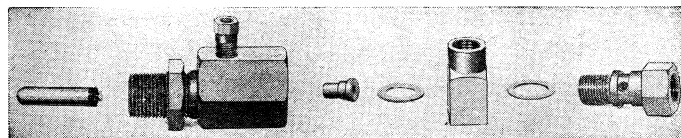

Fig. 12 Control valve hydraulic cylinder with parts removed
16. Disassemble hydraulic cylinder for inspection, Fig. 12.
9. Assemble piston stop and hydraulic connection, Fig. 12, but do not tighten at this time.